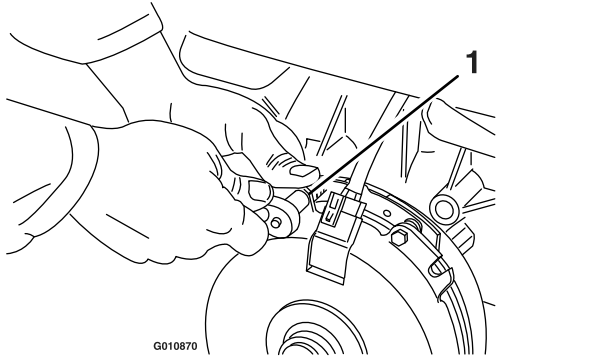

Figure 58
A. Loosen both brake mounting bolts 1/2 to 1 full turn as shown in Figure 58.